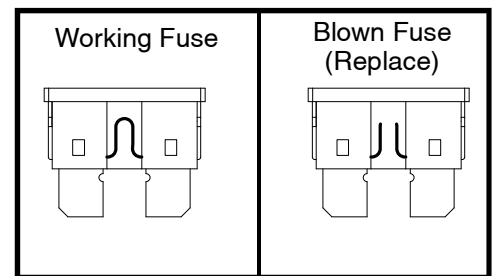

Figure 19. Fuse Replacement
2. Examine the fuse in the fuse holder. See figure 19. If the fuse is blown, it needs to be replaced.